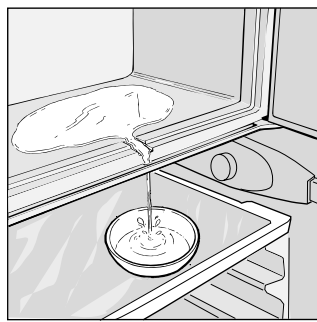

Fig. 3
- Turn the temperature control (A) to the ● setting.
- The defrost water can be collected as shown in Fig.3.